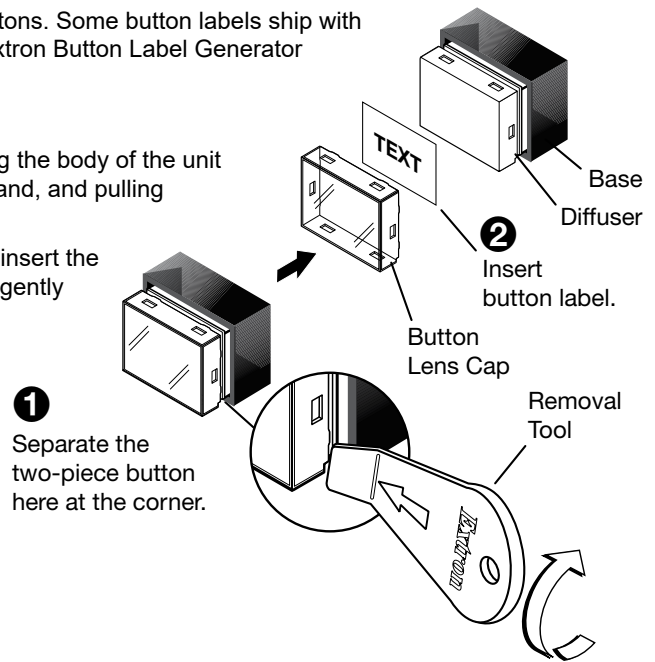

Figure 3. Replacing Buttons
2. Gently separate the button lens button cap from its white diffuser: insert the end of the provided Extron removal tool into the corner notch and gently twist the tool (see figure 3, ①).